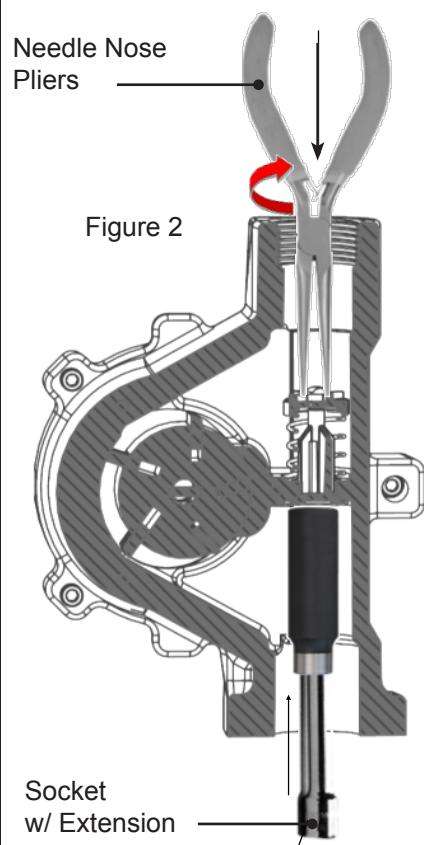

Figure 2
2. Screw the tank adapter (with suction pipe) into the tank bung; seal threads liquid tight with appropriate thread sealant (Figure 2). Mount the pump on the tank adapter; making sure the seal and screen are installed as shown. (Figure 2).
2. Using a blunt object approximately 4" long (i.e. a deep well socket on an extension) inserted in the inlet opening, push the bypass valve firmly in place against the seat it seals on (Figure 2).
3. While holding the bypass valve firmly in place with the socket, insert needle nose pliers (at least 4" long) into the outlet opening and grasp the bypass valve retainer (Figure 2 & 3).
4. Push the bypass valve retainer down slightly and rotate it 90 degrees counter-clockwise. This will align the slot in the retainer with the key on the valve, allowing you to remove the retainer (Figure 2 & 3).